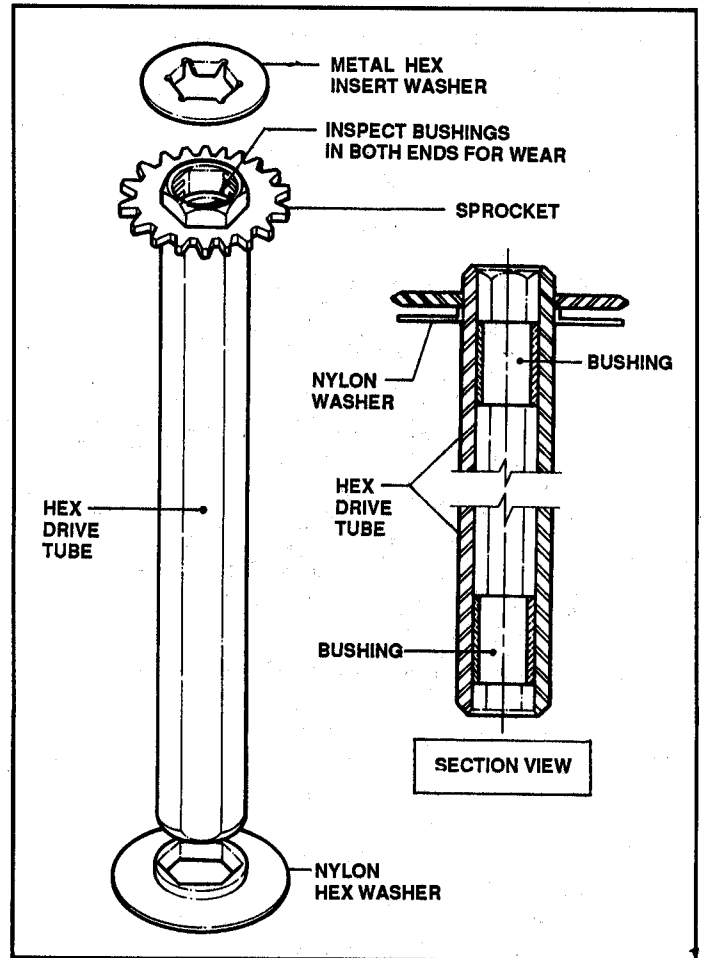

FIGURE 4.19
19. Remove hex washer from top end of hex tube. See Figure 4.19.
20. Remove nylon hex insert washer. See Figure 4.19.
21. Inspect bronze bushings in both ends of hex drive tube. If excessively worn, replace hex drive tube assembly. Refer to Figure 4.19.